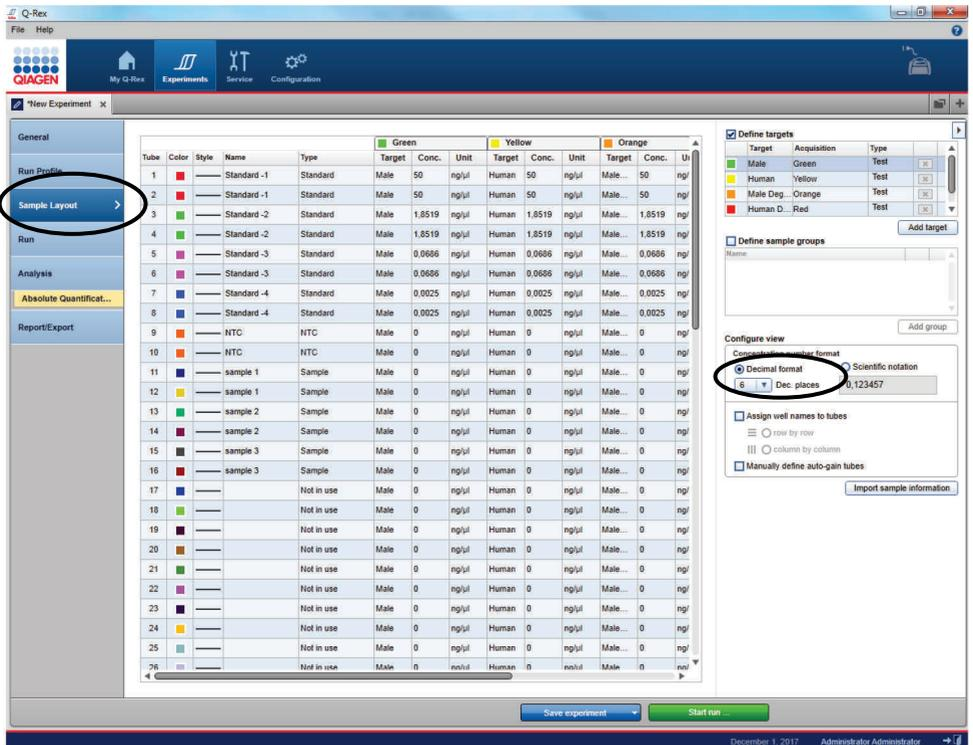

Figure 7. Entering sample information into Q-Rex.
20. Click on the left side in the step marker on "Sample Layout" (Figure 7). Confirm or edit sample layout for Standards and NTCs.
21. Enter samples IDs and set sample type. Sample type can be set/changed by right clicking on the "Type" field. Tubes that are not being used have to be marked as "Not in use". Select appropriate decimal format (Figure 7).